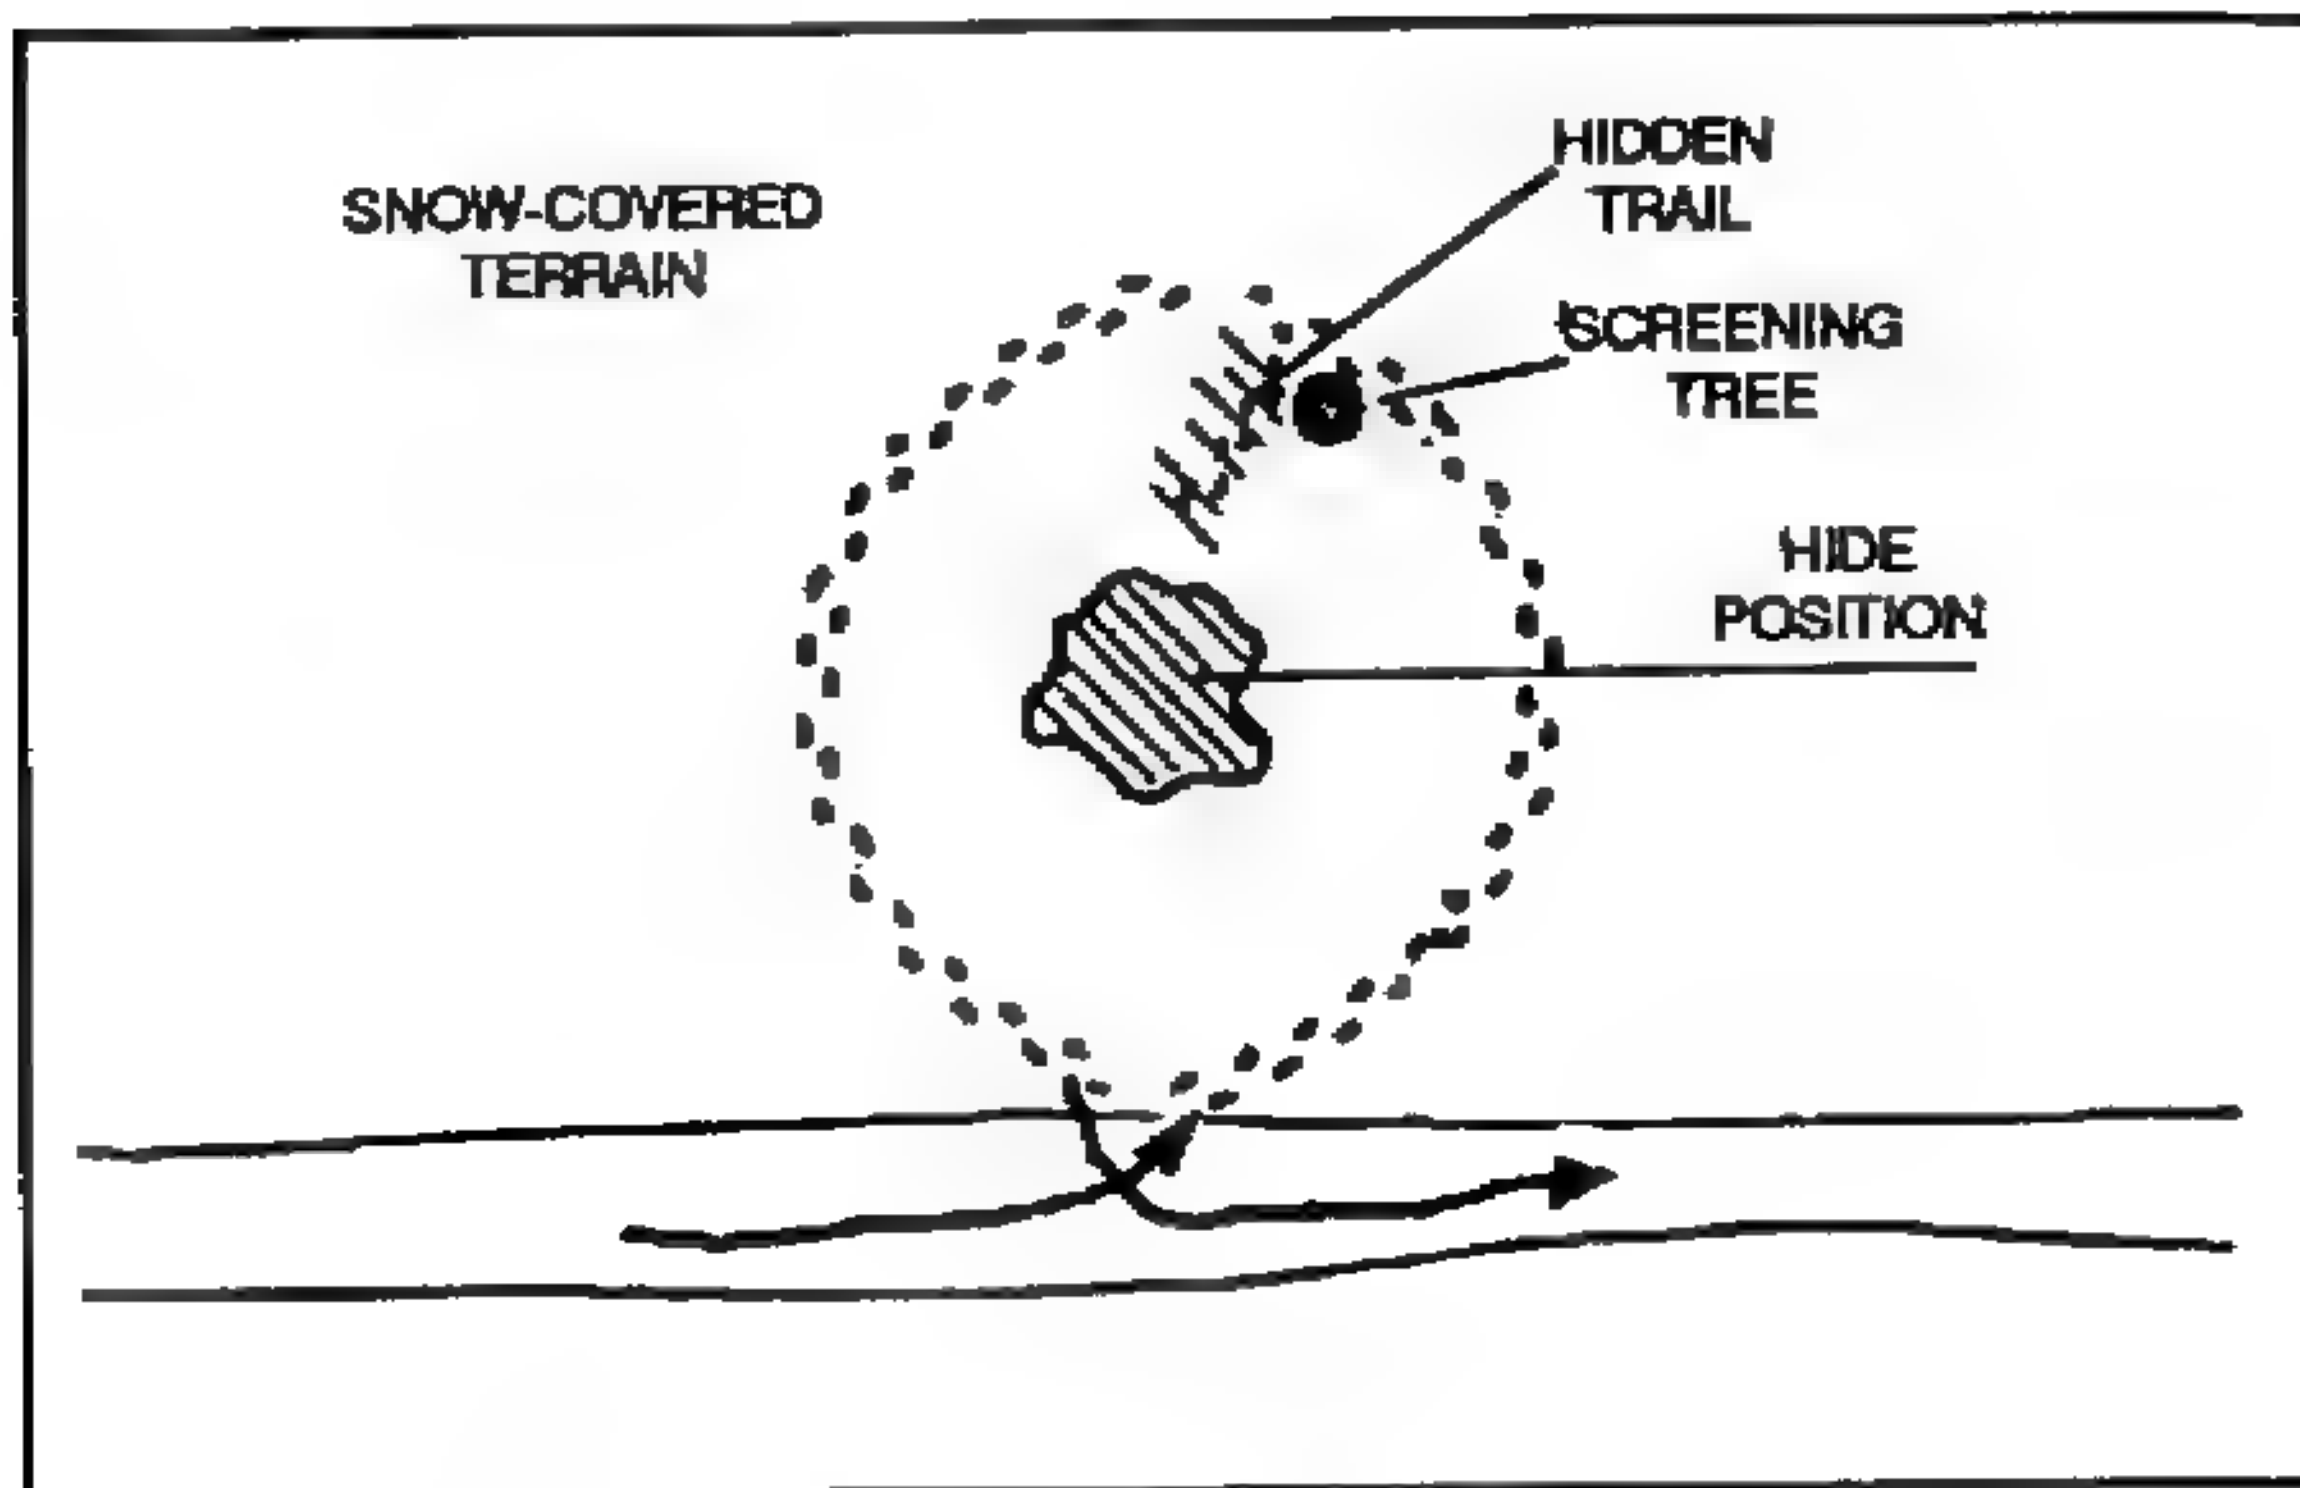

Figure 8-10. Arctic circle.
e. **Arctic Circle.** The sniper team uses the arctic circle technique in snow-covered terrain to escape pursuers or to hide a patrol base. It establishes a trail in a circle (Figure 8-10, page 8-16) as large as possible. The trail that starts on a road and returns to the same start point is effective. At some point along the circular trail, the sniper team removes snowshoes (if used) and carefully steps off the trail, leaving one set of tracks. The large tree maneuver can be used to screen the trail. From the hide position, the sniper team returns over the same steps and carefully fills them with snow one at a time. This technique is especially effective if it is snowing.